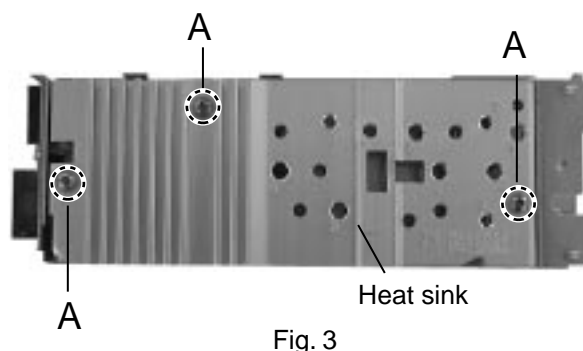

Fig. 3
■ Removing the heat sink (See Fig.3)
- The heat sink (Refer to Fig.3)